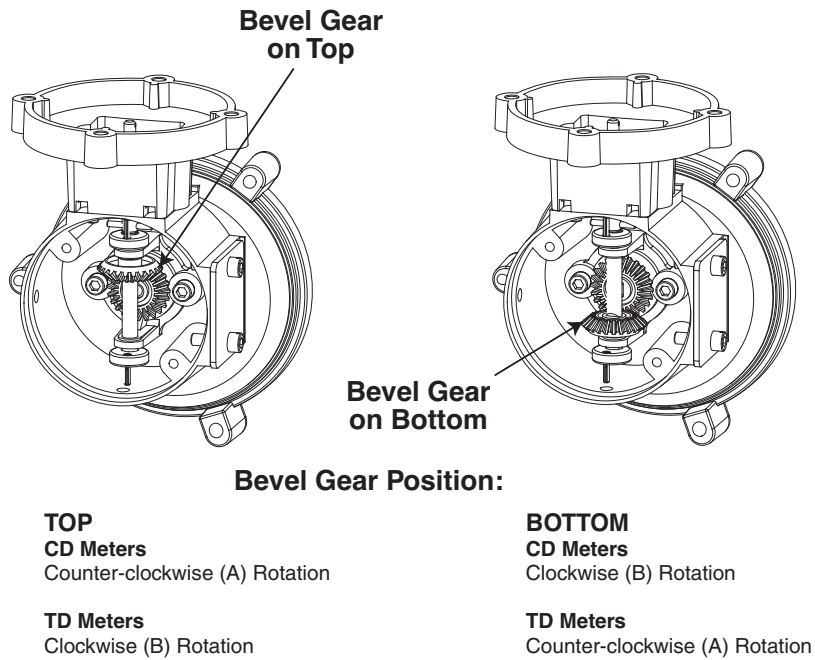

Figure 21 - Placement of bevel gears determines rotational direction.
3. Rotate the modular drive assembly 180° to obtain the proper Drive Dog rotation (refer to *Figure 21*). Making sure the O-ring behind modular assembly remains in place; re-install the modular gear assembly in the vertical position. Torque the screws to 5-7 in.-lb.